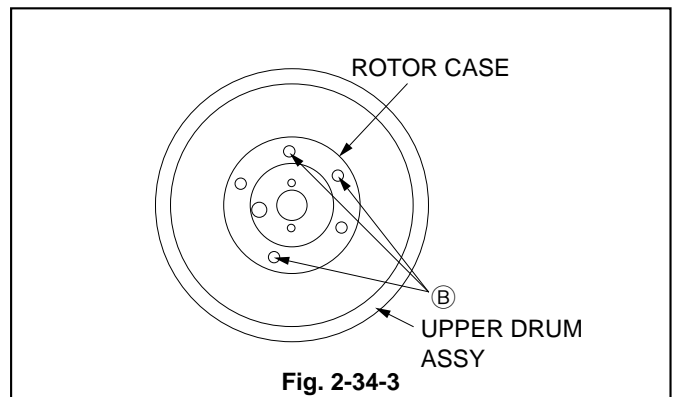

Fig. 2-34-3
5. Install the ROTOR CASE shown in the Fig. 2-34-3, matching its Holes with the three reference holes (B) of the UPPER DRUM ASSY.